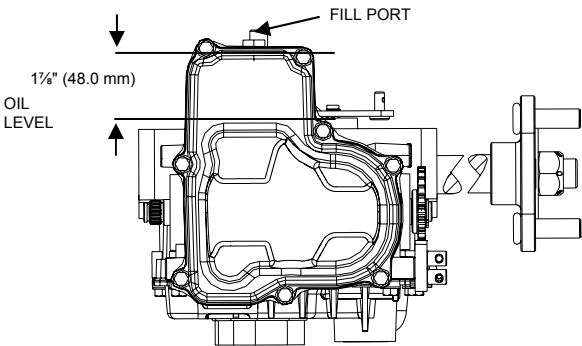

Figure 4. 310-2400/2600 Fluid Level and Fill Port
2. Check oil level and quality in accordance with Figure 4 Page 12.
be added or even replaced. Refer to Figure 4 for the proper fill port location.
Before starting, make sure the transaxle/transmission is at the proper oil level. If it is not, fill to the specifications outlined on page 12, Figure 4.